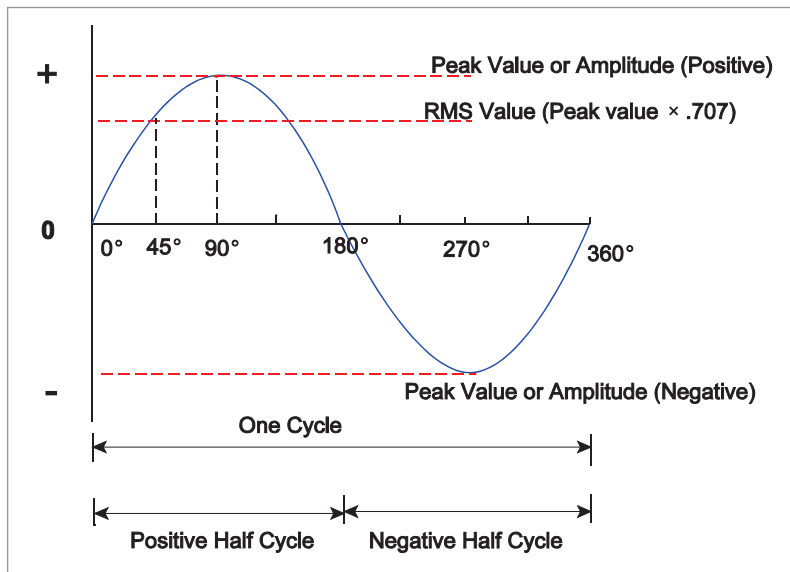

Figure 11.5 AC terminology
- **Amplitude or Peak Value.** The amplitude of a sine wave is the maximum value it attains in one cycle, see Figure 11.5.